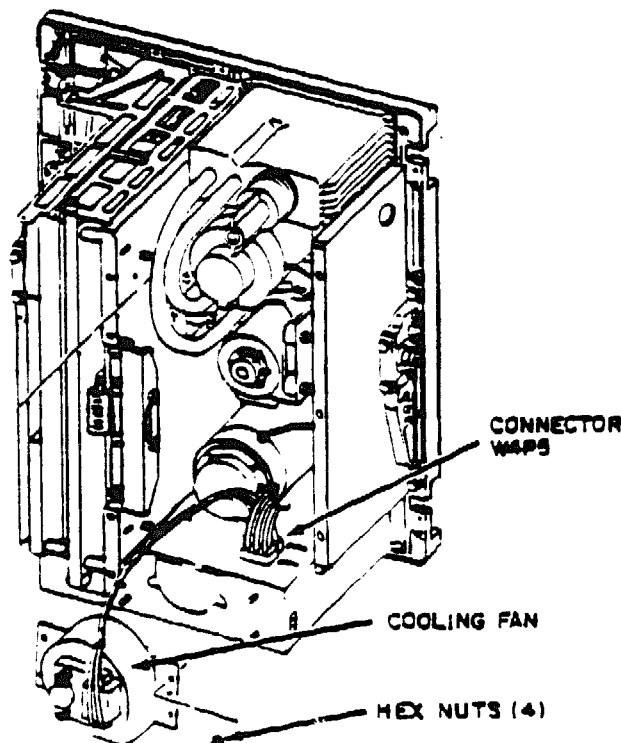

Figure 5-20. COOLING FAN ASSEMBLY
1. Place the tape deck in the maintenance position. Remove the drive cover (paragraph 5.3.1) and detach the cooling fan connector from receptacle J3 on the power supply (Figure 5-20).